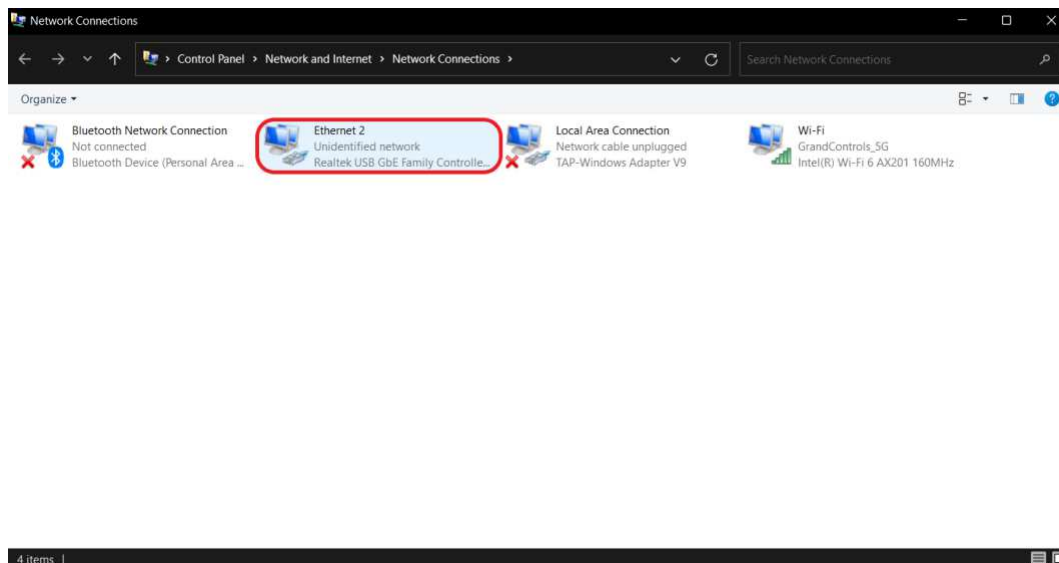

Figure 17: Network Configuration – 'Network Connections' window
2. The ‘Network Connections’ window will show you all networking devices installed on your computer; it may differ visually from what you see below. Find the ethernet adapter that you will be using to connect to your HEAT VIEW controller(s) – in this example it is “Ethernet 2” as highlighted in Figure 17 on the next page – and double-click on it to start editing the network settings.